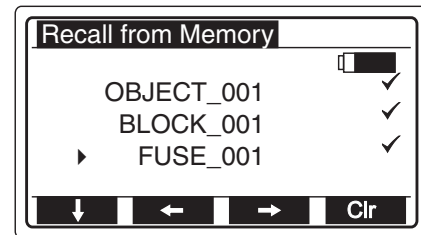

Figure 111: 'Recall from Memory' menu
- The menu 'Recall from Memory' (Figure 111) can be aborted by pressing key 'ESC' (12) or key START (10). Here, the key 'START' does not start any measurement.